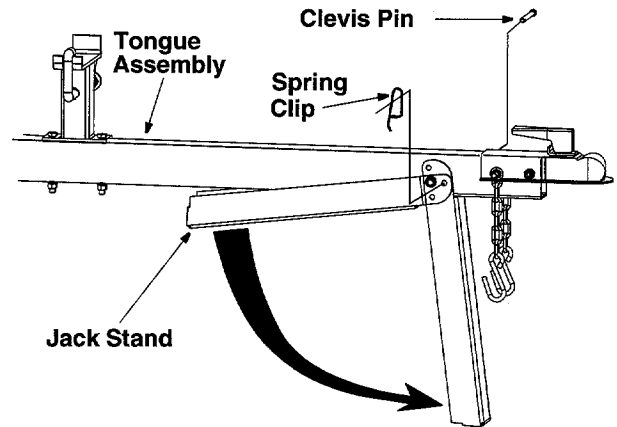

Figure 4
6. Remove the spring clip and clevis pin from the jack stand. Pivot the jack stand to the operating position (90°), and secure with spring pin and clevis pin. See Figure 4.